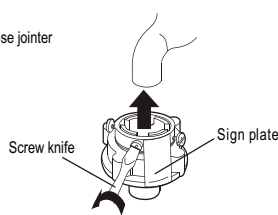
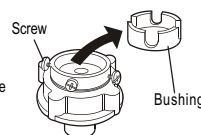

Figure 2
Figure 3
2. Loosen the screw till the water faucet can be accessed. Put the jointer of the water inlet hose on the faucet. See to Figure 2. (If the faucet is too large and the jointer can not be set on the water faucet, please loosen the four screws and take out the bushing in the jointer. The front end of the faucet must be smooth, otherwise it may leak water. See to Figure 3.)